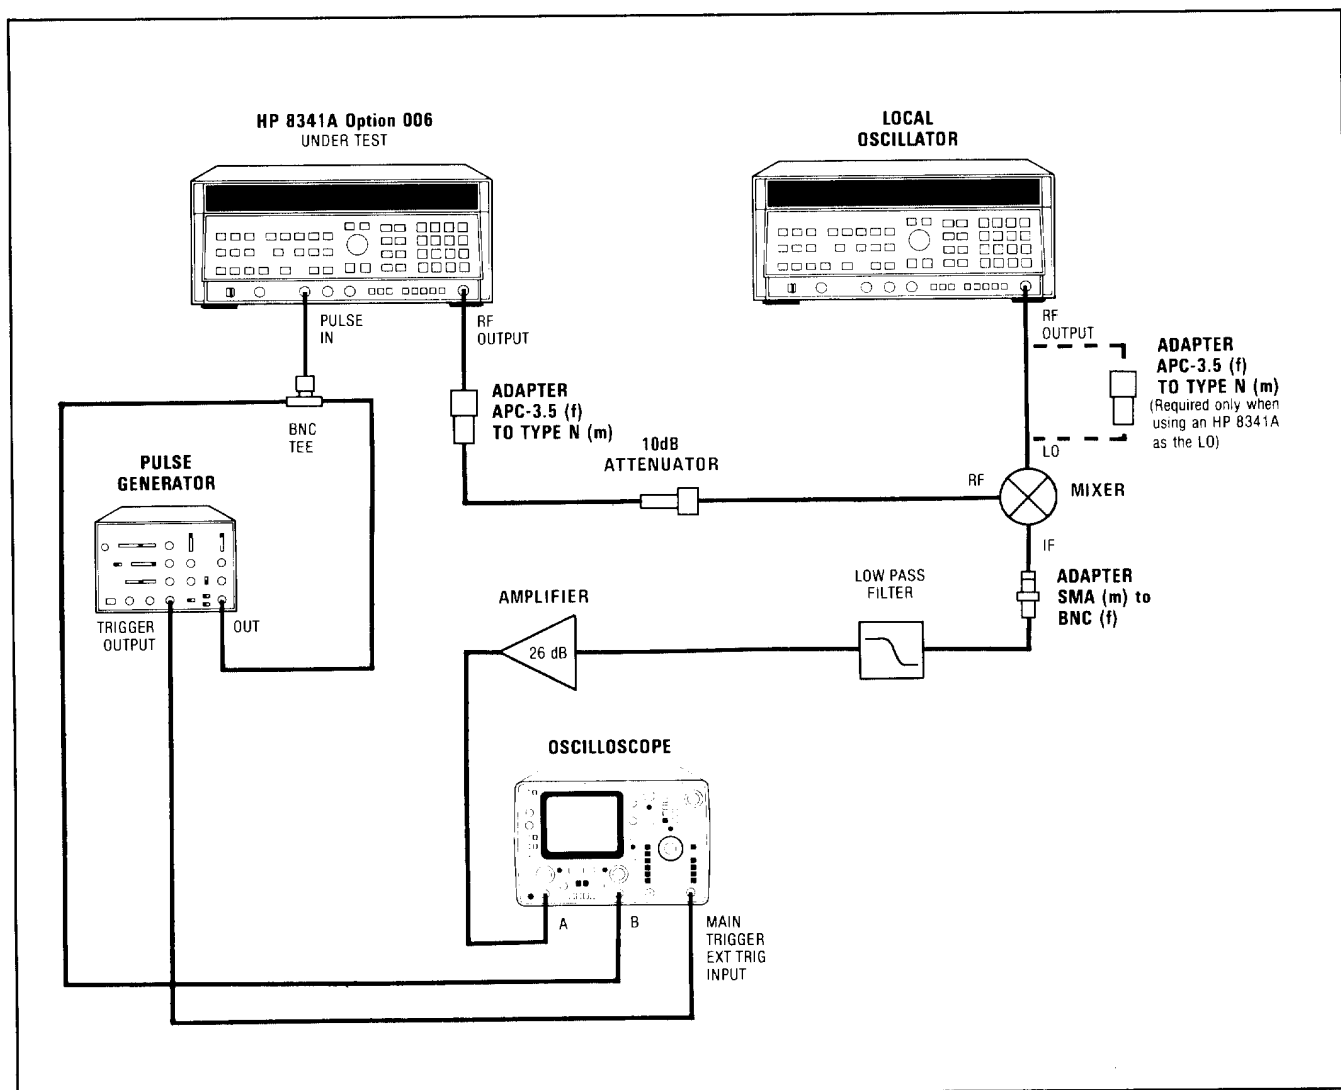

Figure 4-13. Pulse Modulation Rise and Fall Time Test Setup
1. Connect equipment as shown in Figure 4-13. Connect the mixer directly to the local oscillator RF output to obtain maximum LO drive to the mixer. Connect the BNC tee directly to the HP 8341A PULSE IN connector. Allow at least 30 minutes warm up time.